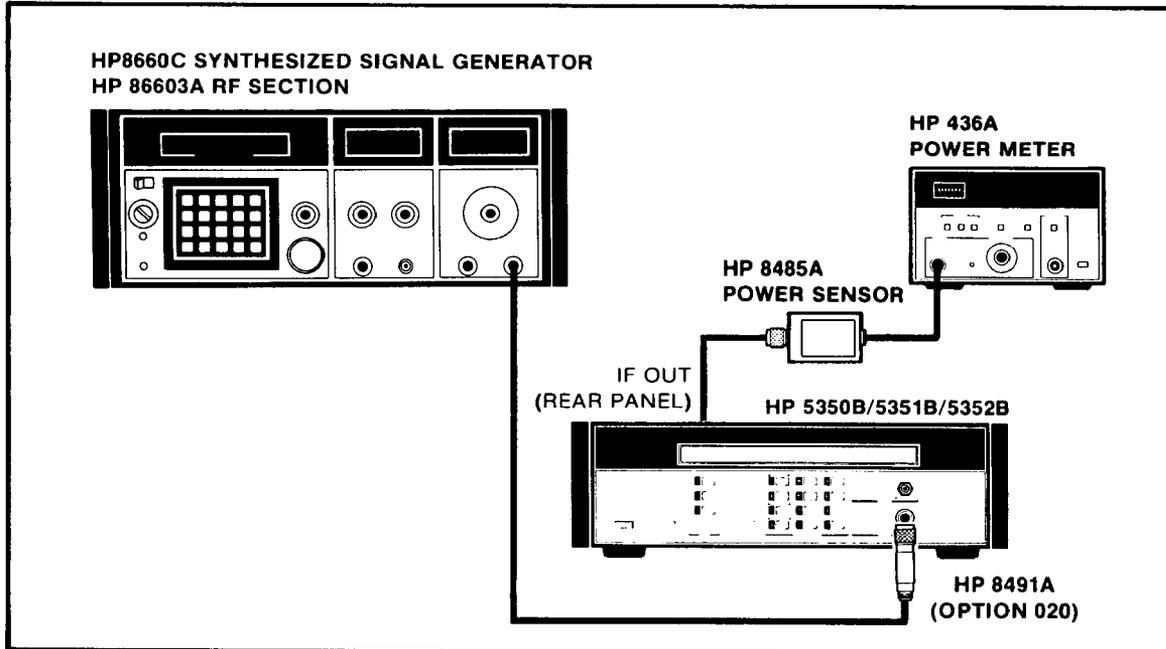

Figure 5-4. 175 MHz Elliptic Filter Adjustment Setup
- b. Connect the synthesizer output to INPUT 1 of the 5350B/51B/52B through the HP 8491A 20 dB attenuator. Connect the power meter and power sensor to the IF OUT connector on the rear panel of the counter. See *Figure 5-4*.
- a. Connect a house standard (1, 2, 5, or 10 MHz reference frequency) to the EXTERNAL SYNC INPUT of an oscilloscope and set the oscilloscope to EXTERNAL SYNC. Connect the 5350B/51B/52B rear panel 10MHZ OUT to the Channel A input of the oscilloscope. (See *Figure 5-4*.)